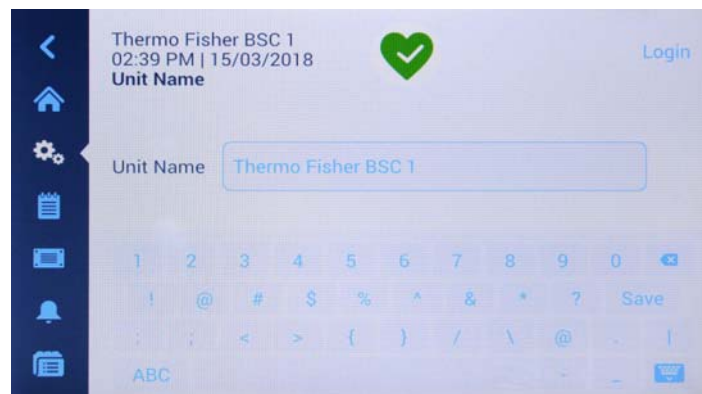

Figure 84 Display Settings: Changing Unit Name Screen
5. Tap on the *Unit Name* field to display a full keypad, as shown in Figure 84 below.